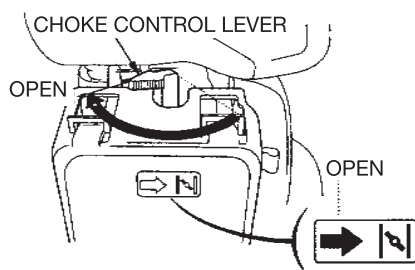

Fig. 8
6. After the engine warm up, open the choke gradually (as shown on the Fig. 8).